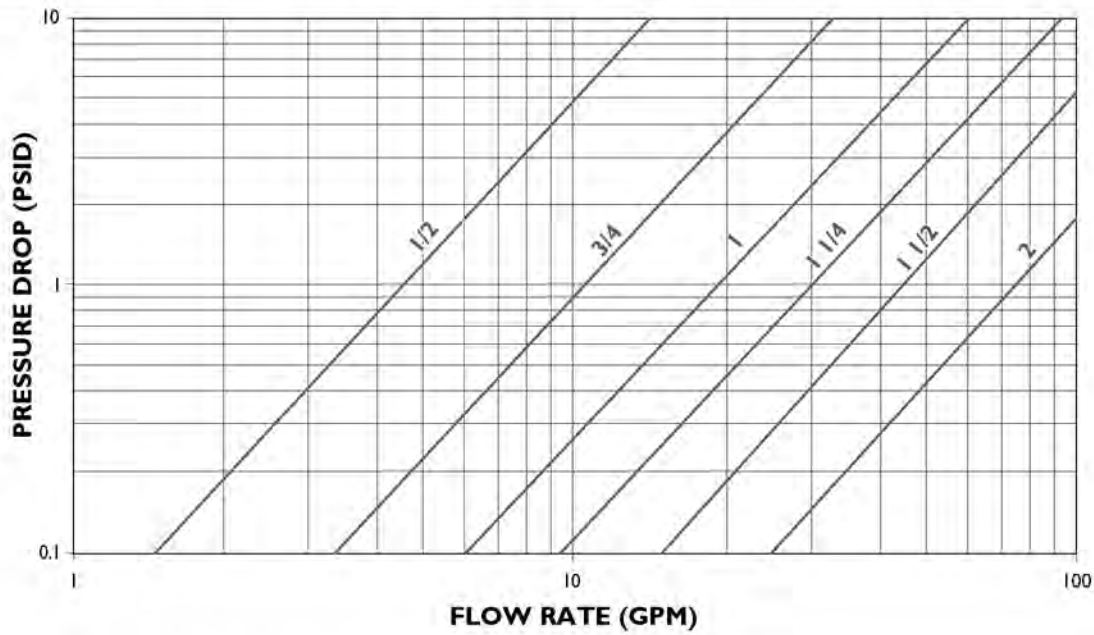

FIGURE 1
*Multiply values obtained from figure 1 thru 2 by the appropriate values shown below
- A)** Using figure 1 the pressure drop is determined to be 0.9 psig with WM's standard screen.
- Using figures 1 or 2 determine the pressure drop (P1) through the strainer with water flow and standard screens.
- Using chart #2 multiply P3 by the appropriate Component Factor (CF) to get P4.
- Multiply P4 by the appropriate Body Loss Factor (BF) in chart #3 to get P6.
* Multiply values obtained from figures 1 thru 2 and charts #1, #2 and #3 (if used) by the appropriate values shown below